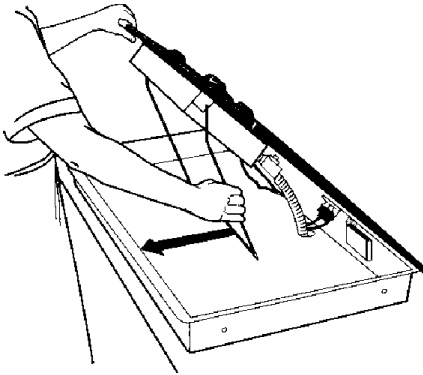

Figure 3-6
2. Raise the maintop and position the support rod against the front of the burner box (see Figure 3-6).